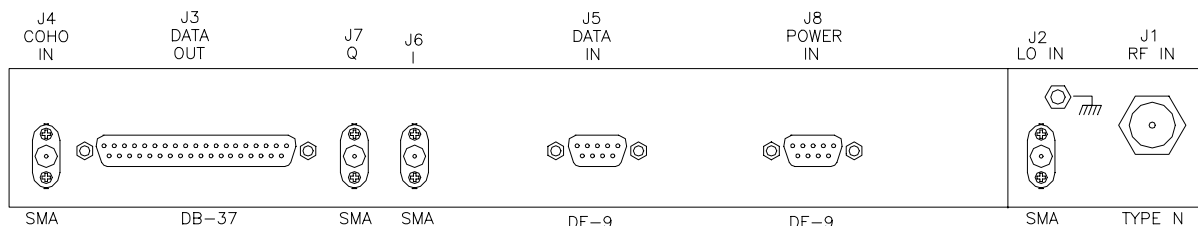

Figure 5-3 Type 2 Receiver Rear Panel
3. Disconnect the coaxial cables from ports J2 (LO) and J4 (COHO) on the rear panel of the Receiver (see Figure 5-3).
3. Reconnect the interface cables to ports J2, J3, J4, and J5 on the rear panel of the Type 2 Receiver (see Figure 5-3).